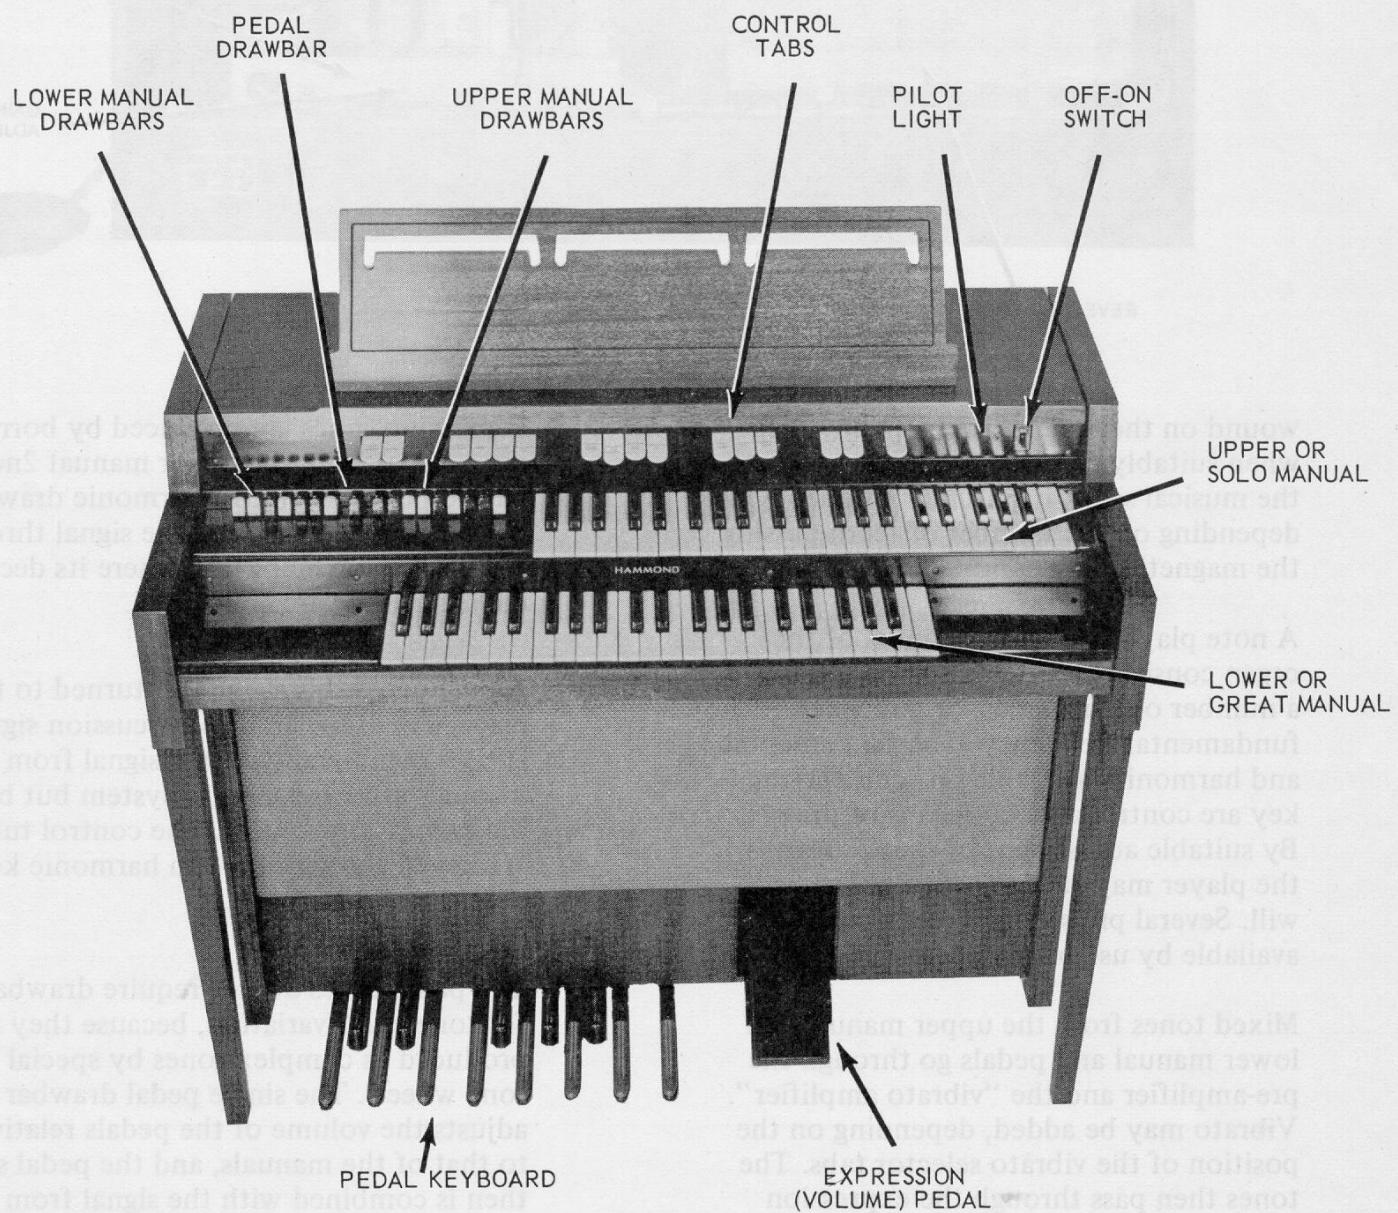

Figure 1-1. L-100 Console, Front View
1-1. **GENERAL** — This section contains a description of the operating principles of L-100 Series organs. Figures 1-1 and 1-2 depict the locations of the various subassemblies. Figure 1-3 is a block diagram.
A toggle switch (Figure 1-1) controls power to the organ.
**1-9. EXPRESSION PEDAL.** — The expression pedal, sometimes called "swell" pedal (Figure 1-1) is operated by the player's right foot and varies the volume of both manuals and pedals together. When the pedal is tilted back (closed) by pushing on the player's heel the music is softest, and when pushed forward (opened) by the player's toe the music is loudest.